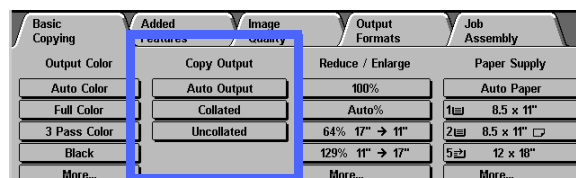

**Figure 8: Output Color screen**
- Touch **More...** to see additional options, as illustrated in Figure 8.